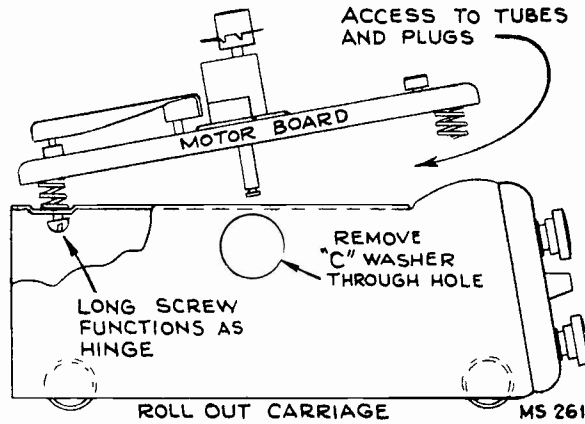

Fig. 26
3. Raise record player (Fig. 26).
2. Tilt motor board (Fig. 26).
4. Remove retaining screws (Fig. 26).